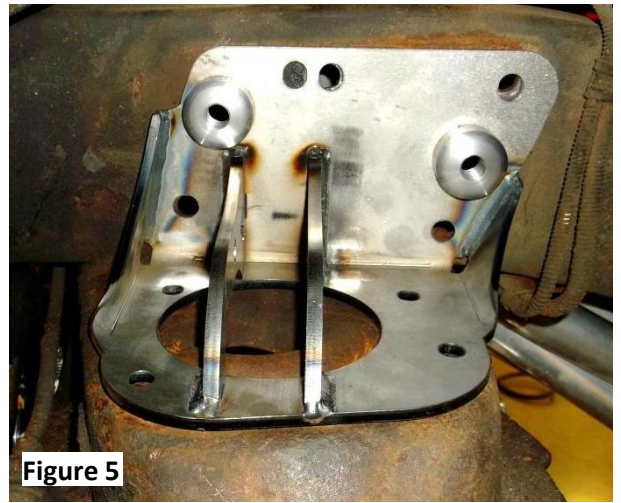

Figure 5
3. Remove the control arm bracket and begin cutting the opening to match the bracket opening. Along the cut line. **Note:** It is best to cut small and enlarge the opening as needed. See **Figure 5 and 6**.